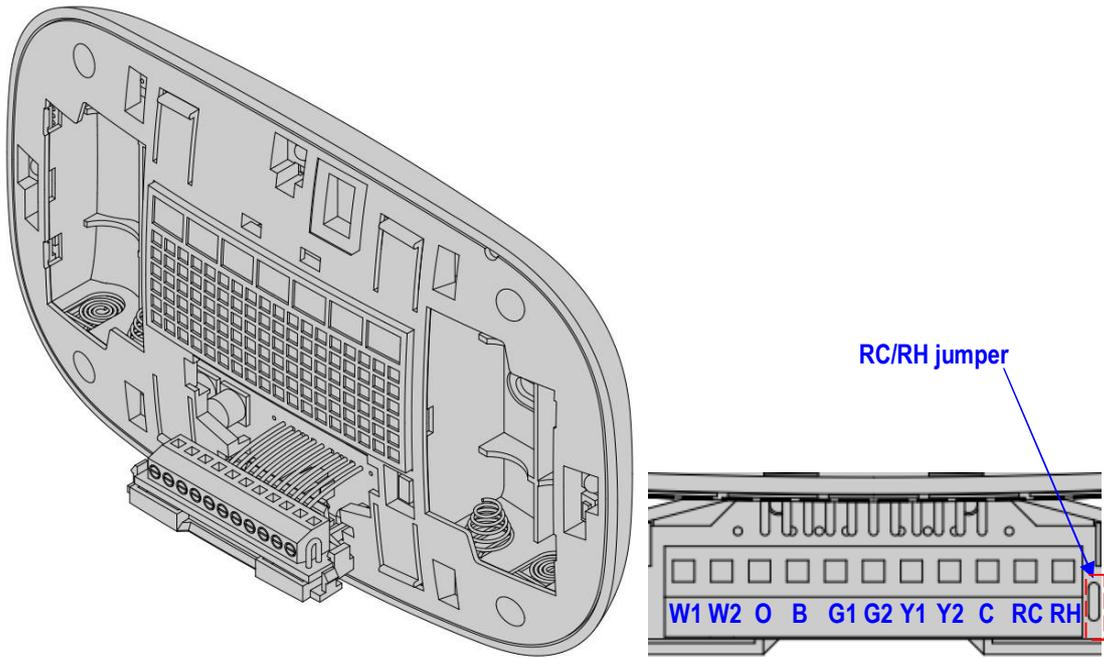

Figure 4. Terminal wiring
5. Wire the proper cables to the terminal block according to the circuit diagram as described in figure 4 and "Thermostat Terminal Wiring". Afterward, push all cables back into the wall then close the terminal block of the ZTS-500.